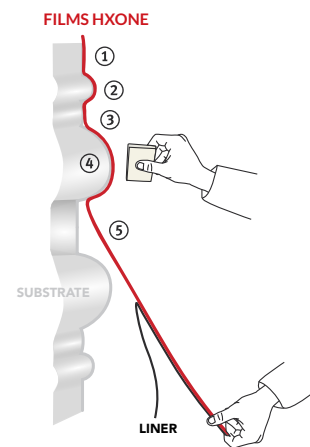

Figure 07
- › Gradually remove the liner while pulling it downward. (FIG. 07)
- › Start by applying the film to the hollow part ①, then to the peak ② and finally to the hollow part ③.
- › Continue onto the next undulation ④, then keep going ⑤ until completion of the application.